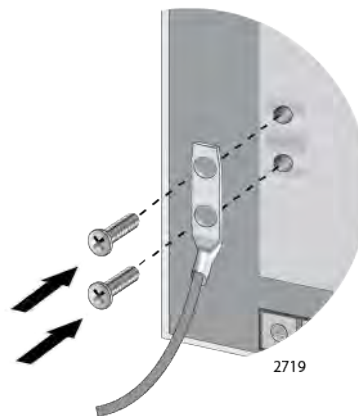

Figure 52. Installing the Grounding Lug and Wire
4. Install the grounding lug on the rear panel of the chassis, as shown in Figure 52.